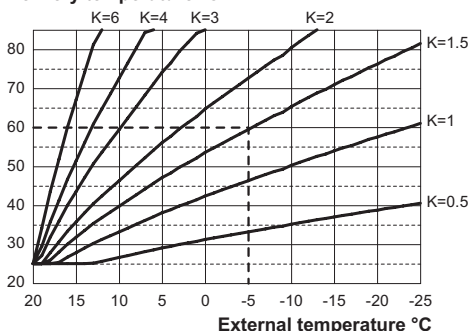

Fig. 8.13
The boiler is set with a K coefficient of zero for operation without the probe connected. If an external sensor (optional) is connected to the boiler, the correct parameter must be set according to the type of probe installed (see "Selecting the type of external sensor" on page 77) and the K coefficient must be set based on the efficiency of the heating system to optimise the delivery temperature (Fig. 8.13).
E.g. To achieve a heating system delivery temperature of 60°C with an outdoor temperature of -5°C, set a K of 1.5 (dashed line in Fig. 8.13).
- Use key 17 or 18 to modify the value of the selected parameter, referring to the curves in Fig. 8.13.